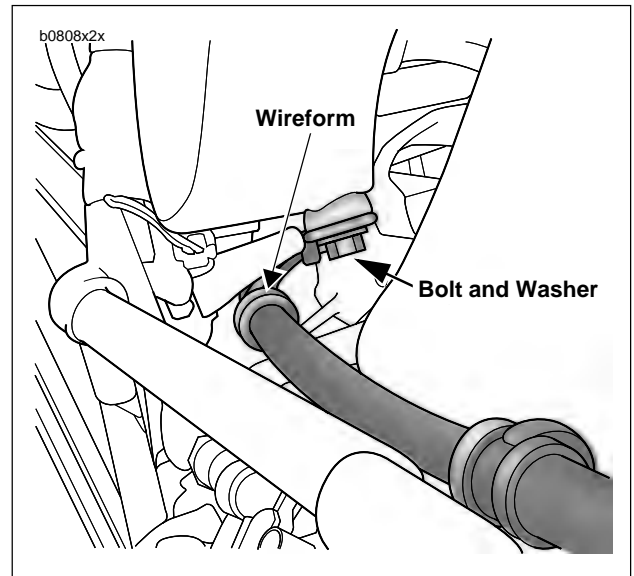

Figure 2-47. Rear Brake Line Wireform
5. See Figure 2-47. Remove bolt, washer, wireform and brake line from under oil tank.
6. Remove wires from terminals (2,3) at top of brake lamp switch (4). Unthread brake lamp switch from tee nut.
4. Place brake line inside wire guide (5) closest to master cylinder.
5. See Figure 2-47. Attach the wireform under the oil tank with bolt and washer.